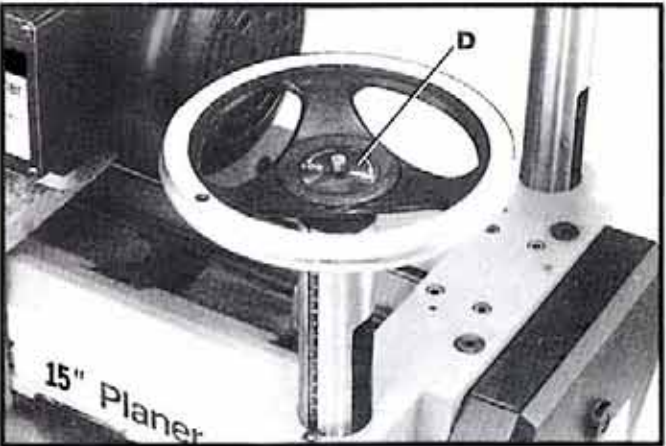

Fig. 7
3. Assemble decal (D) Fig.7, to raising and lowering shaft as shown.